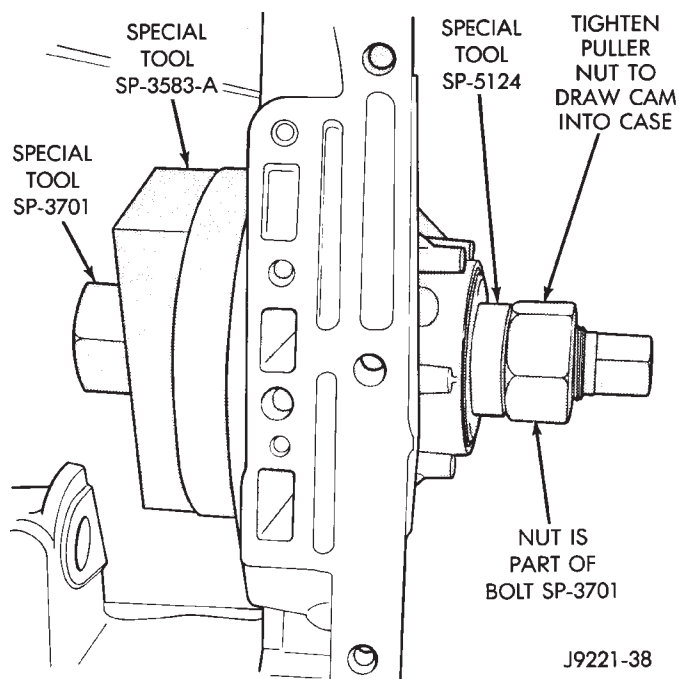

Fig. 45 Installing Overrunning Clutch Cam—46RH
(10) Hold puller plate and bolt in place and install puller nut SP 3701 on puller bolt (Fig. 45).
(11) Tighten puller nut to draw clutch cam into case (Fig. 45). **Be sure cam is drawn into case evenly and does not become cocked.**